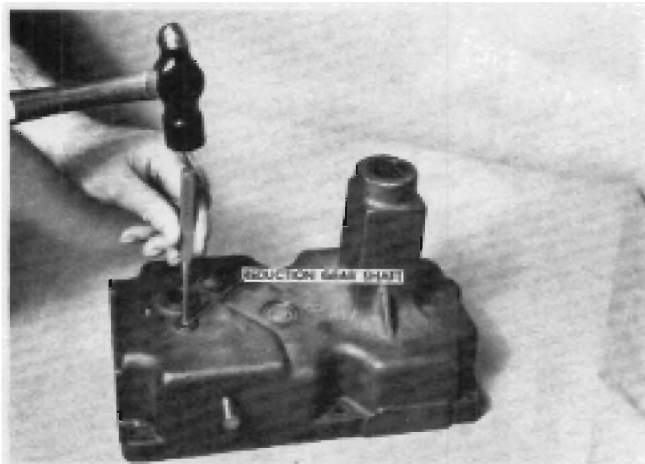

FIGURE 7
24. Remove the reduction gear shaft (Figure 7) by driving it out toward the inside of the case, and remove the reduction gear.